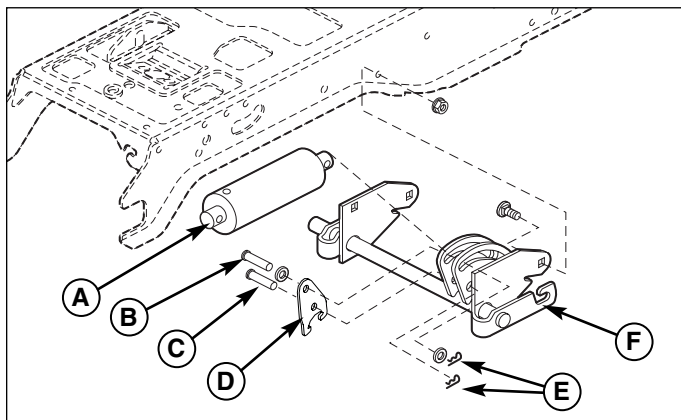

Figure 10. Install Lock Plate - Hydraulic Lift Models
1. Remove and retain the flat head pin (B, Figure 10) and hair pin clip (E) securing the lift cylinder (A) to the lift shaft assembly (F).
2. Mount the lock plate (D) next to the cams on the lift shaft assembly (F) as shown.
3. Install the original flat head pin (B) and new flat head pin (C) and secure with hair pin clips.